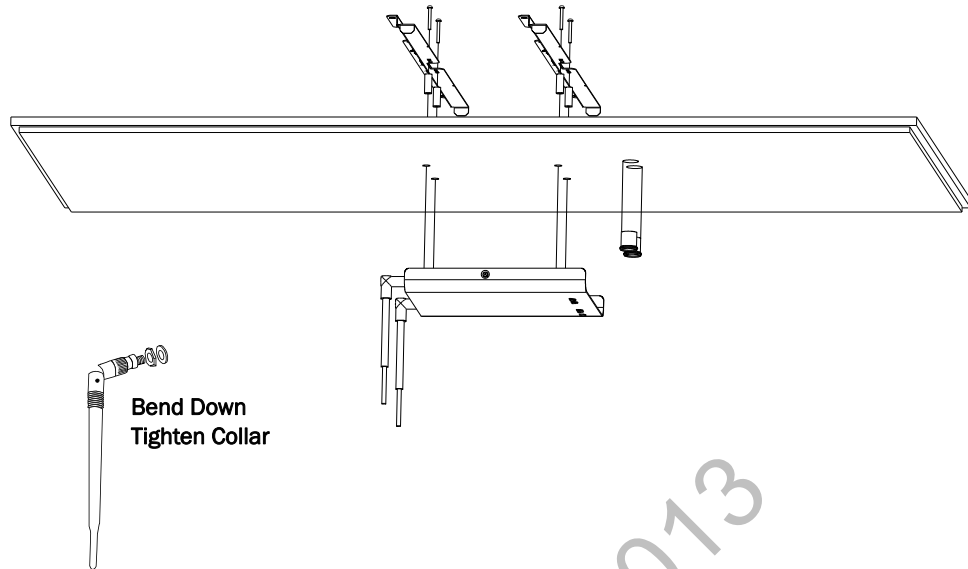

Figure 2-10: Mounting the Core AP Below a Ceiling Tile (Fixed Mount)
7. Insert the four (4) M3-.5 X 30 lobe screws into the Core AP mounting rail holes, through the provided plastic spacers, through the tile, and into the mating holes in the back of the Core AP as shown in Figure 2-10. Torque-tighten each screw to 8-inch lbs.